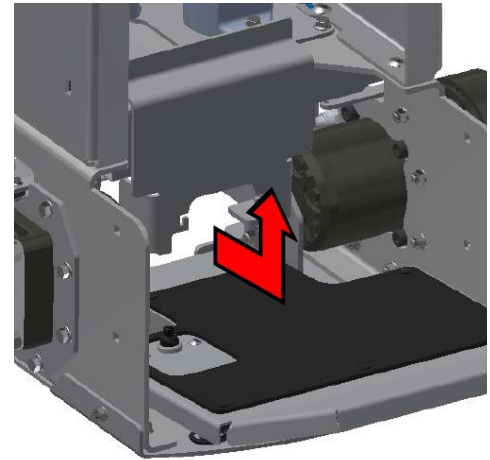

Fig. 2
- With the brake pedal in the **"UP POSITION"** (Fig. 2), adjust the brake cable until the wheel motor bracket is straight (Fig.3).